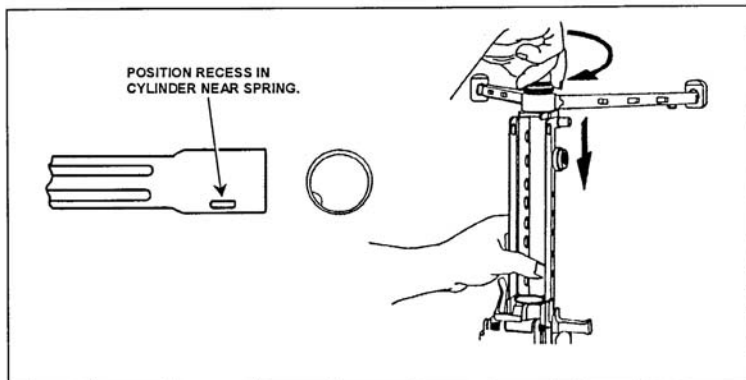

Figure 071-312-4025-22. Replacement of the bipod and gas cylinder
- (1) Place the bipod on the receiver.
- (2) Push the gas cylinder through the bipod yoke into the receiver.
- (3) Push the cylinder to the rear. Counter the pressure of the locking spring and guide the end of the cylinder into the receiver, with your other hand applying downward pressure. When you have fully inserted the gas cylinder, rotate it until the spring clicks into place in the recess at the rear of the cylinder (figure 071-312-4025-22).